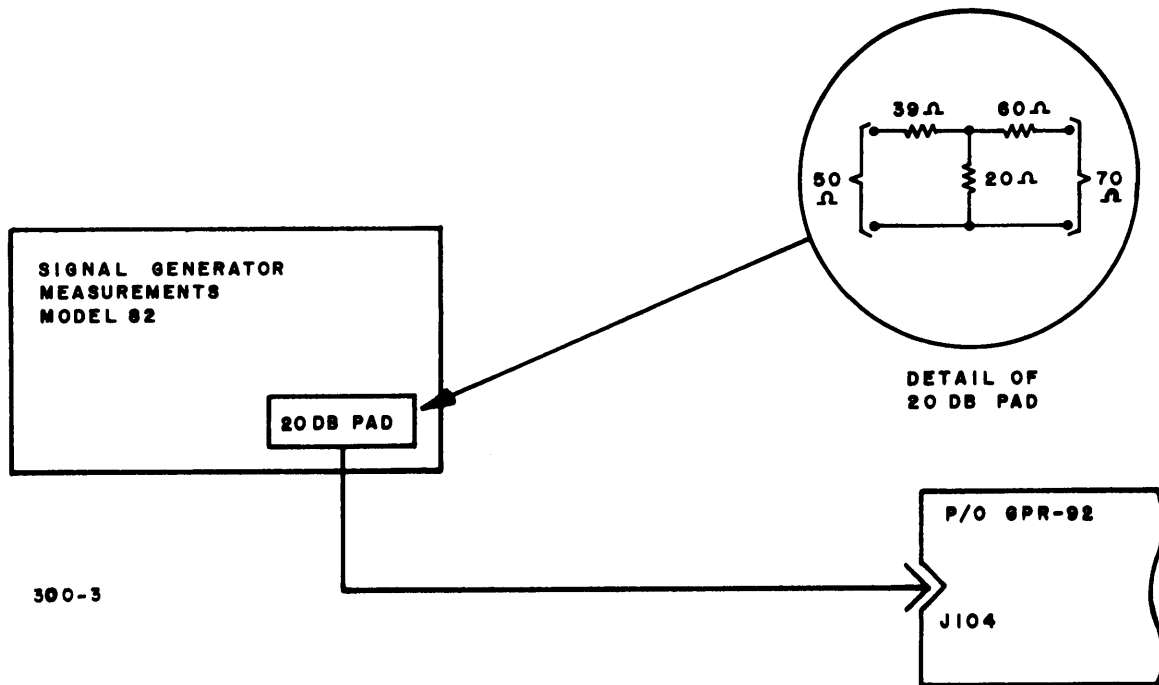

Figure 2-4. Test Setup for Signal Generator
(b) Connect signal generator to jack J104 of GPR-92 as shown in figure 2-4. Tune signal generator for 1 mc output signal modulated 30 per cent with 1 kc; adjust signal generator output level for 10 microvolts.
- (b) Connect signal generator to GPR-92 No. 1 as shown in figure 2-4. Tune signal generator for 2 mc output signal modulated 30 per cent with 1 kc; adjust signal generator output level for 10 microvolts.
- (c) Using RANGE SELECTOR switch (19) and TUNING control (5), tune GPR-92 to 2 mc; 1 kc tone should be heard on loudspeaker LS-1.
- (d) Refer to Variable Frequency Oscillator VOX-5 manual and calibrate VOX-5 at 2450 kc. Tune VOX-5 to 2455 kc; peak HFO tuning and then adjust OUTPUT control (41) as required to obtain 0.2 ma indication on meter (54).
- (e) Set EXT/INT switch (17) of GPR-92 at EXT; volume and clarity of 1 kc tone on loudspeaker LS-1 should not change.